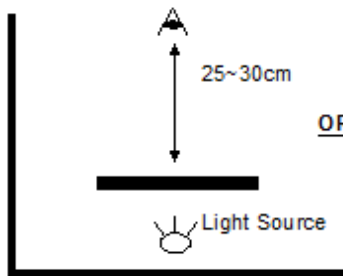
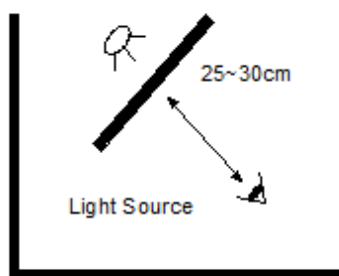

Figure 2a
Figure 2b
- 7.2.2 Put on light box to check on defects such as black dot, cover lens ink print scratch and pin hole. (Figure 2a or Figure 2b)